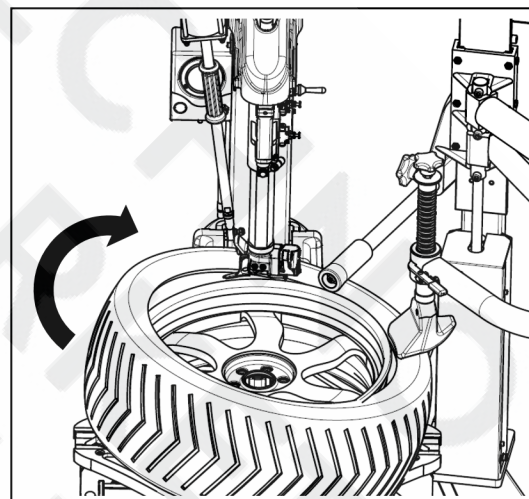

FIG35
- In the same way, Position the left of the lip above the tail of the demount tool and the right under the hump of the demount tool. Press hard the right side tire wall. If there's assist arm, need position the fixture press rod and rotation rod like FIG35 and press the tire lip down rim the tire detach slot. Then step the rotation pedal to observe the tire lip and demounting hook, if there's no abnormality, step down the rotation pedal to rotate the turntable clockwise to mount the upper side of tire lip into the rim. If there has resistance and feel the tire is torn or the turntable is stuck, please release the pedal immediately, and step the pedal upward to reverse the motor and eliminate the resistance. Repeat the operation till mount the tire completely.